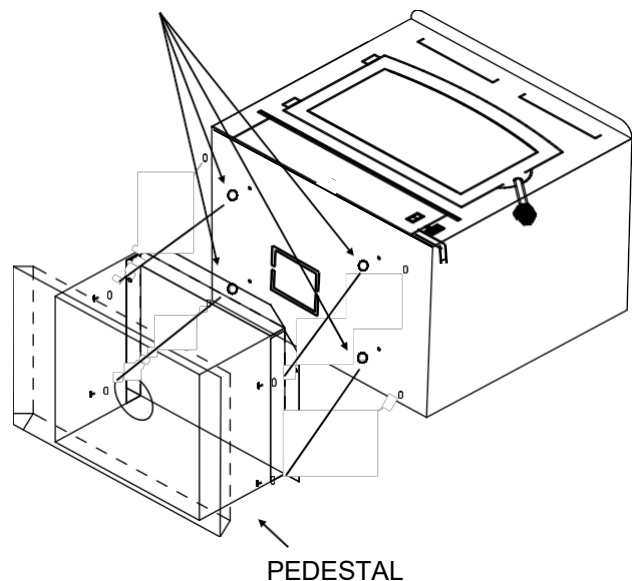

FIGURE 13
6. **(Pedestal Kit):** If pedestal kit is being used an outside air is required for residential freestanding installation (page 34 Out Side Air Installation). Place pedestal against bottom of heater (angle side to heater). Center pedestal front to rear and also center left and right. Mark screw locations with pen or pencil on bottom of stove through outer holes of stand mounting angles. Set stand aside and drill four 7/32" holes in heater bottom. Then mount pedestal to bottom of heater with screws provided. (See Figure 13).
7. Obtain four (4) 3/16" self-tapping screws and secure pedestal to heater.